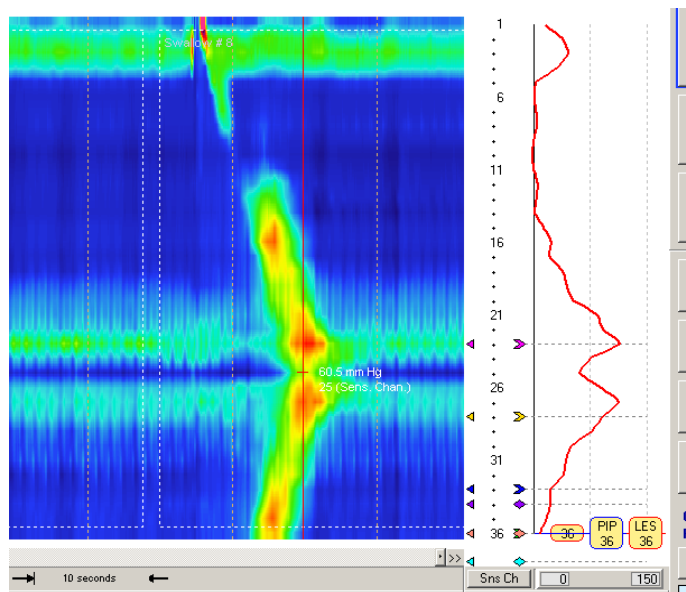

Figure 3.3.5-1 Pressure signature of doubled-back catheter condition
3. Assure the probe does not become doubled back. Care must be taken to assure the catheter is not doubled back on itself while in the body. This condition can be observed as a symmetric signature in the pressure profile and main displays as shown in Figure 3.3.5-1. If this occurs, the probe should be withdrawn immediately to the point that the condition no longer exists. Prolonged periods in the doubled-back state can lead to premature failure of the probe (see Section 2.8 for precautions).